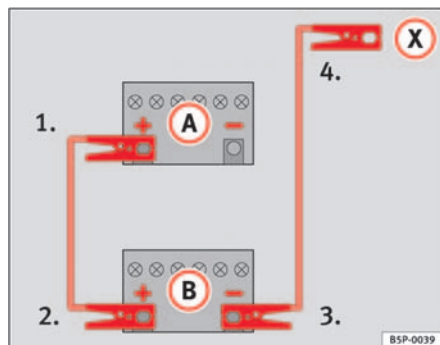

Fig. 172 How to connect the jump leads
In ⇒ fig. 172, the flat battery is **A** and the charged battery **B**.
- 1. Connect one end of the red jump lead to the positive ⇒ fig. 172 (+) terminal of the vehicle with the flat battery ⇒ ⚠.
- 4. Connect the other end of the black jump lead (X) to a solid metal component which is bolted on to the engine block, or onto the engine block itself of the vehicle with the flat battery. Do not connect it to a point near the battery ⇒ ⚠.